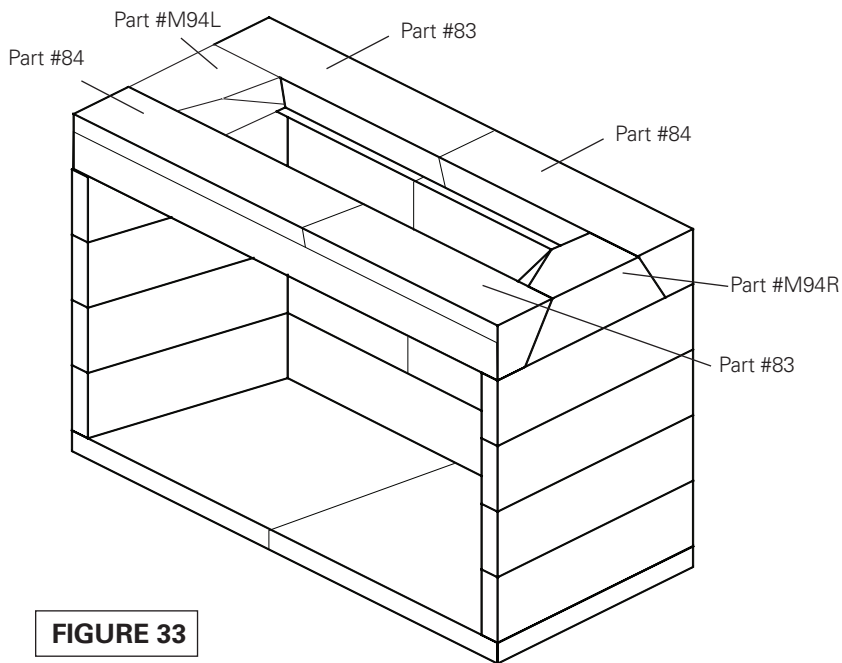

FIGURE 33
The four (4) lintels when part #83 and part #84 are put together they will be equal to the width of the fireplace model that they serve. Properly placed, the lintel is to sit on top of the firebox back wall and flush with it; the other lintel sits flush with the front of the firebox, spanning the firebox opening. These components both sit on their narrow base so that their beveled face points down and into the firebox interior. **(Figure 33)**